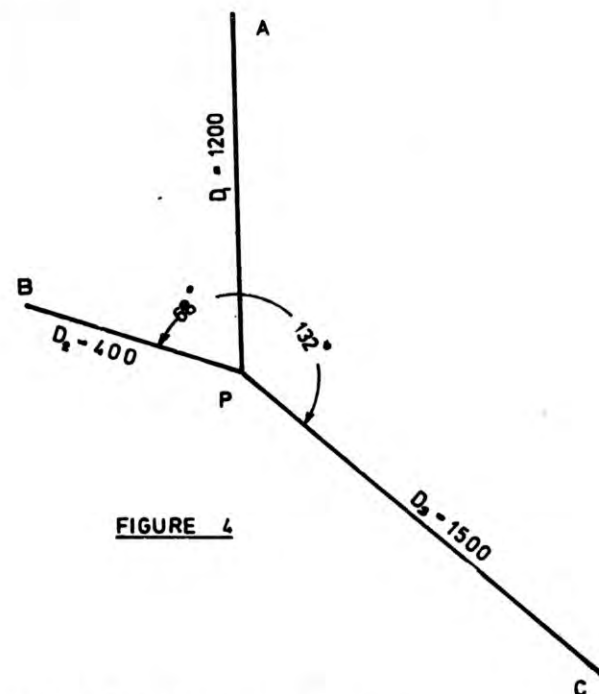

FIGURE 4
2.031 As an example, suppose an original surveyor observes the angles θ_1 and θ_2 as 68° and 132° and estimates the distances as shown in Figure 4.
Equation 2 has been used to produce Graph II which gives shift distance in metres against the ratio $\frac{D_1}{D_2}$ for various values of subtended angle θ . For convenience, D_1 has been taken as 1,000 m. As with Graph I, Graph II can be used with sufficient accuracy for all cases of re-establishment. Referring again to Figure 4 and the example in 2.031 $\frac{D_1}{D_2} = 3$. Since the graph only accommodates ratios of $\frac{D_1}{D_2}$ less than unity, the ratio will be temporarily inverted, thus $\frac{D_2}{D_1} = 0.33$. Interpolating from the graph for observed angle $\theta = 68^\circ$, $s = 0.313$. Since the numerator of the ratio is 400, the actual value of shift is therefore $(\frac{400}{1000} \times 0.313) = 0.124$. Thus, a line drawn parallel to, and 0.124 from the original 87° tangent line, will represent the position line of an observer reading an angle of $68^\circ 01'$ between A and B in the vicinity of P. For $\theta_2 = 132^\circ$ and $\frac{D_1}{D_2} = 0.8$, from Graph II, "s" is interpolated as 0.175. Since $D_1 = 1200$ the shift to be applied is thus $(\frac{1200}{1000} \times 0.175) = 0.210$.